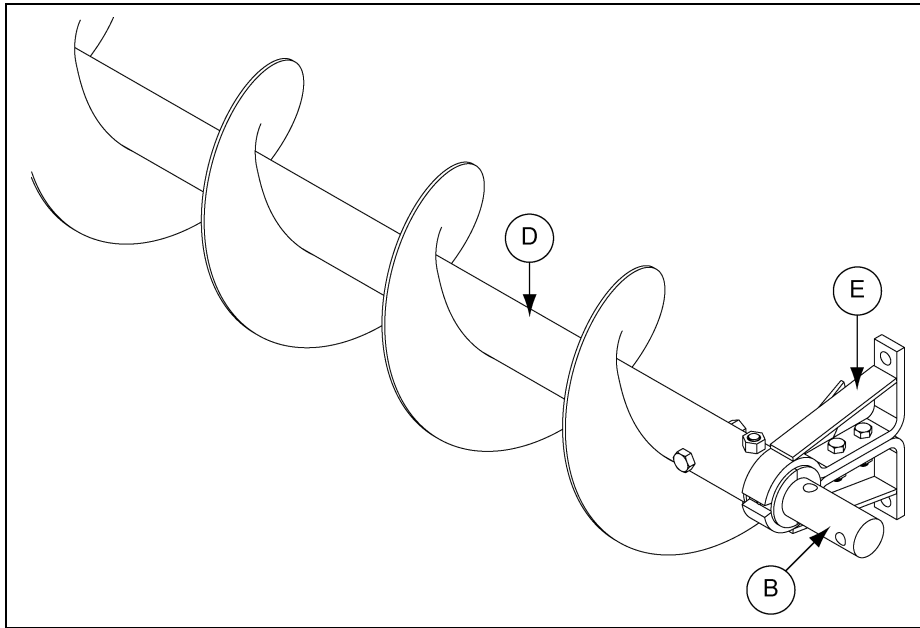

Figure 4AB
3. Slide the hanger bearing (E) onto the connecting shaft (B) and tighten the hanger bracket bolts. (See Figure 4AB.)